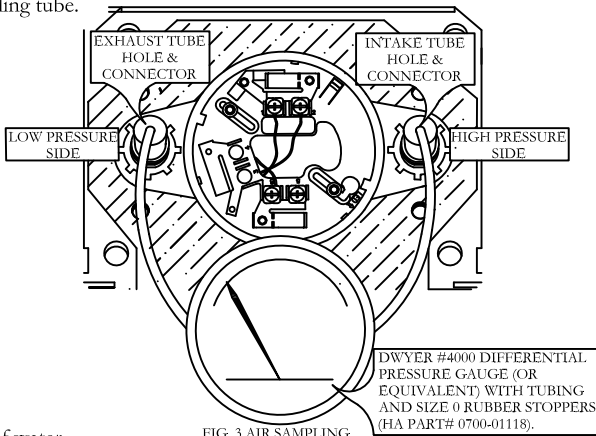

FIG. 3 AIR SAMPLING VERIFICATION
F. VERIFY AIR SAMPLING (See Figure 3)
To verify proper sampling of air, use a Dwyer Model 4000 differential pressure gauge (or equivalent). See Figure 3 for gauge connections. The pressure differential between input sampling tube and exhaust tube should be greater than 0.01" of water and less than 1.2" of water.